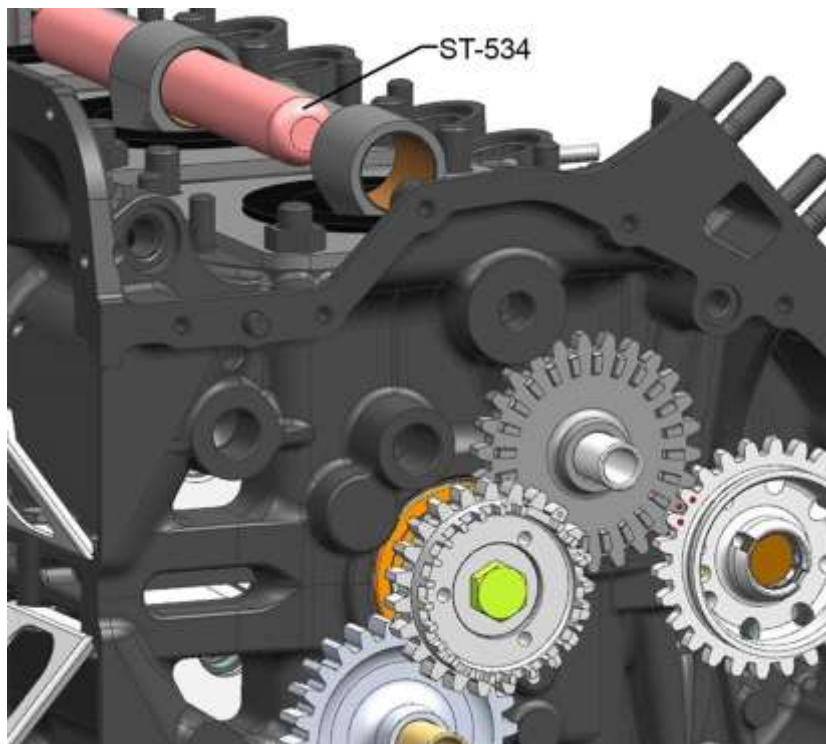

Figure 113
- F. Insert the Crankshaft Locking Tool (ST-534) through the connecting rod for cylinder number 4 and against the Torque Plate (ST-222) as shown in Figure 113. The Crankshaft Locking Tool prevents the crankshaft from turning while the crankshaft gear bolt is torqued.